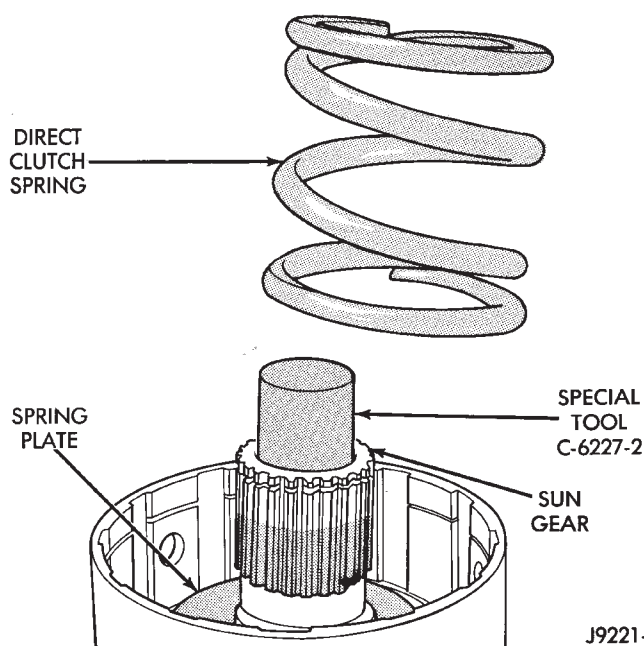

Fig. 47 Installing Direct Clutch Spring
(19) Install direct clutch spring. Be sure spring is properly seated on spring plate (Fig. 47).